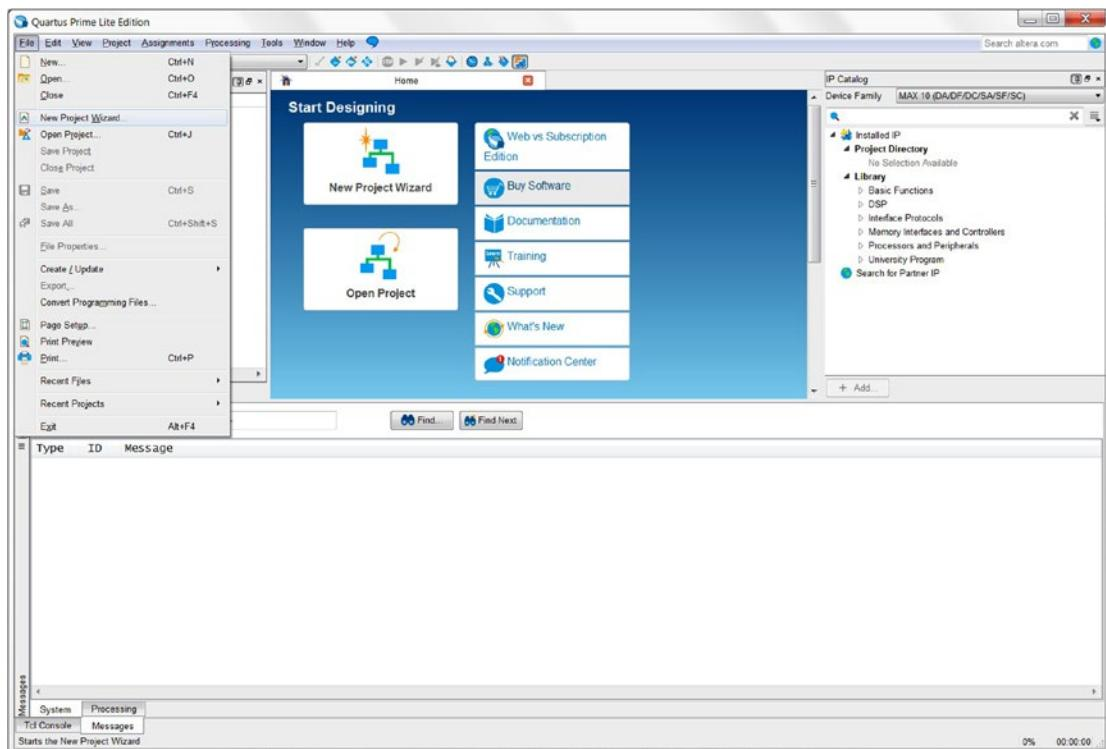

Figure 4-2. Create a new project from the File tab or Home Page
2. Create a new project by clicking **File ▶ New Project Wizard** or click the **New Project Wizard** on the Home page tab (Figure 4-2).